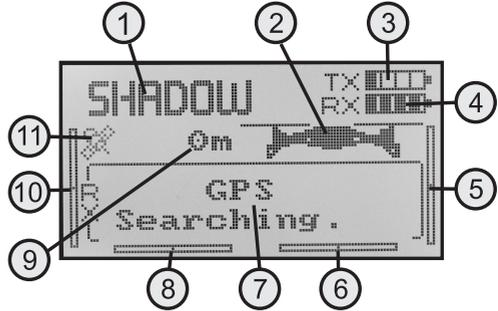

Figure 10
The operating display shown in figure 10 will only appear completely if the receiver system or quadcopter is in operation as well.
Switch on the remote control transmitter and check the correct function of the transmitter with the display. The trimming displays (see figure 10, items 5, 6, 8 and 10) must be in the middle position. If this is not the case, the trimming must be set (see the following chapter 11. g).
When the binding between the transmitter and receiver is correct, the display of the remote control shows the voltage supply of the receiver (see figure 10, item 4). Push the buttons „UP“ or „DOWN“ at the transmitter to get more information about the current reception of the GPS satellite.